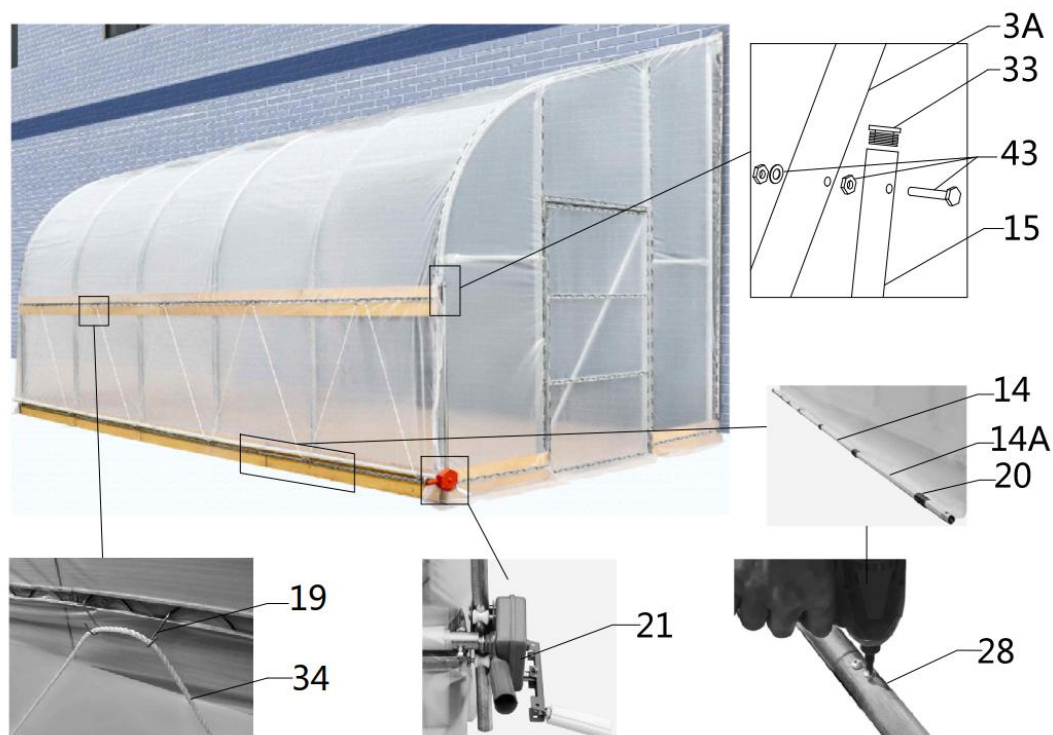

Figure 12
- To Install the film rolling machine, first fix the Film rolling machine guide tube on the lower riser-a of truss (refer to figure 12).
- A round plug (#33) is put on both ends of the film rolling machine guide tube (#15), and the guide tube is mounted on the frame with a hex bolt (#26), and it is required to swing freely. After using a self tapping screw (#28) to connect the roll film tube (#14), lay it flat on both sides of the frame. The film (#35) is wound on a roll film tube (#14), and clamped with a pressure film carrier (#20). The film rolling machine (#21) drives the roll film tube (#14) to be raised and lowered horizontally and flexibly without jamming. (refer to figure 12).
- In this step, install the film rolling machine on the film rolling machine guide tube (#15) , and the installation method is as follows : (refer to figure 12).
- Installing braided rope (refer to figure 12)
- (3) Roll film tube (#14)